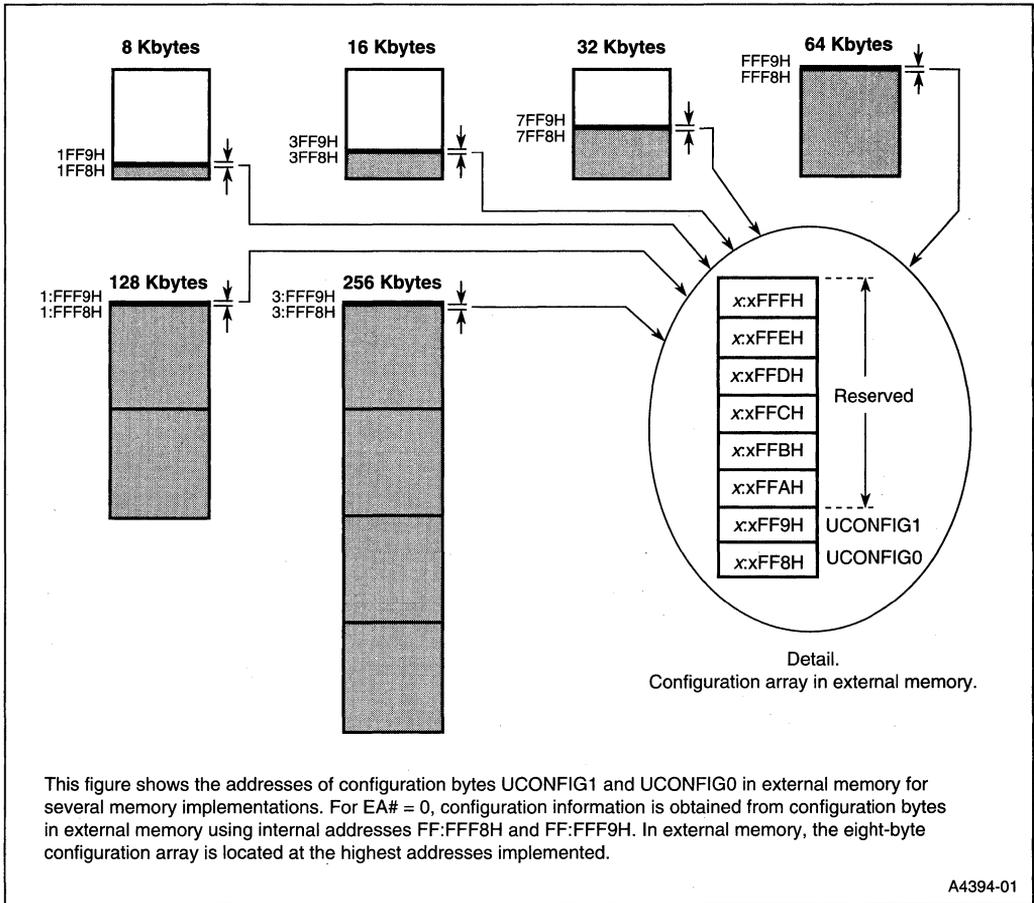

Figure 4-2. Configuration Array (External)
For devices without on-chip program memory, configuration information is accessed from external memory using these same addresses. The designer must store configuration information in an eight-byte configuration array located at the highest addresses implemented in external code memory. See Table 4-1 and Figure 4-2. When EA# = 0, the microcontroller obtains configuration information at reset from external memory using internal addresses FF:FFF8H and FF:FFF9H.
- When EA# = 0, the reset routine retrieves UCONFIG0 and UCONFIG1 from external memory using the internal addresses FF:FFF8H and FF:FFF9H which appear on the external address bus (A17, A16, A15:0) as shown in this table. See Figure 4-2.